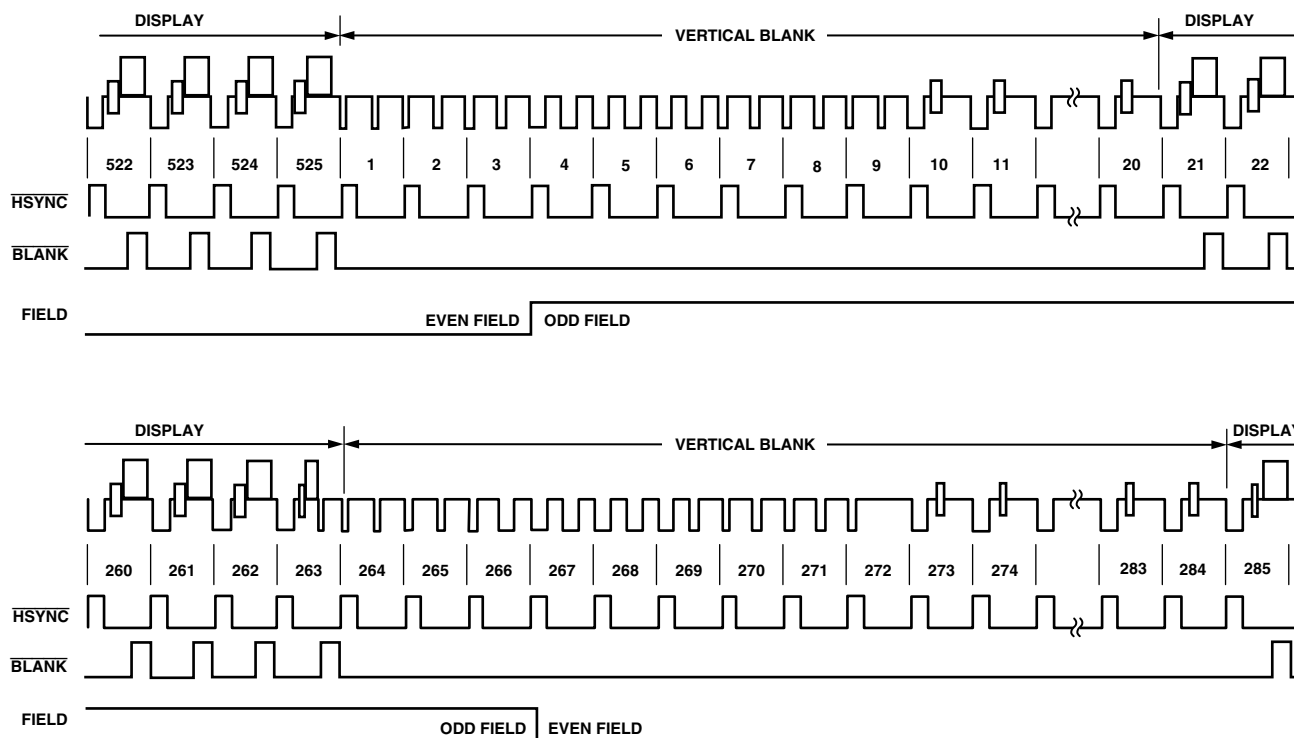
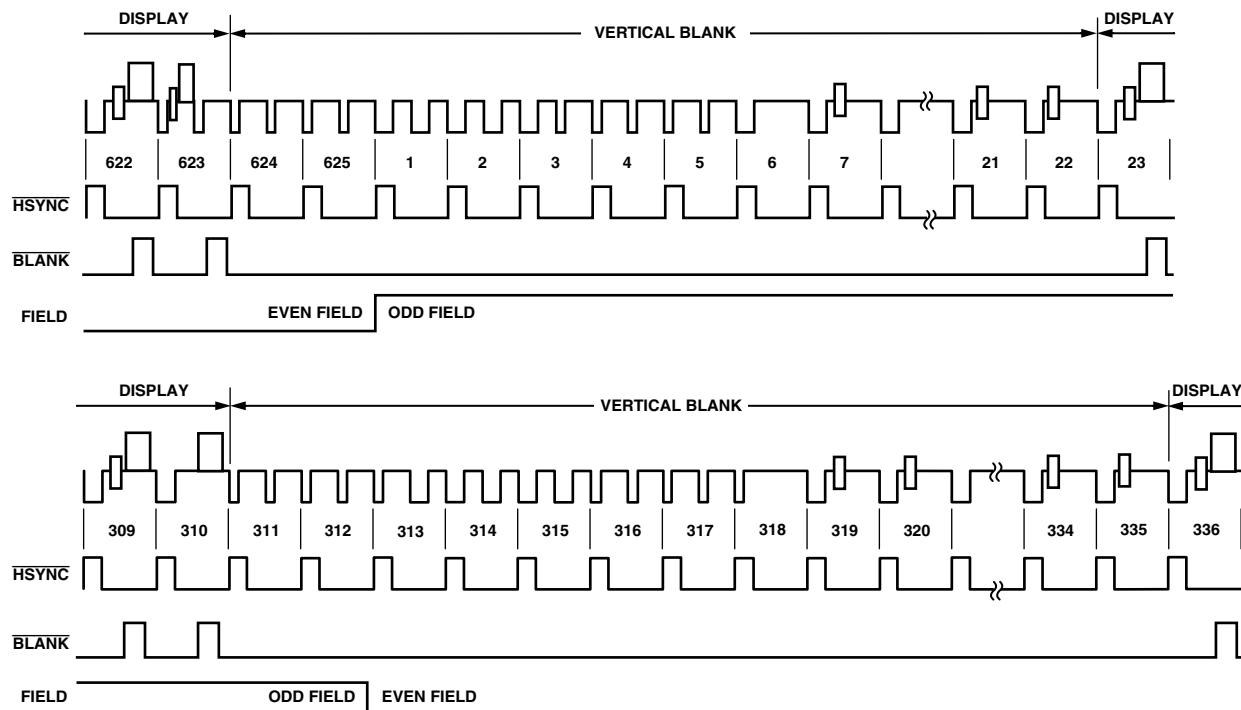

Figure 18. Timing Mode 3 (NTSC)
Figure 19. Timing Mode 3 (PAL)
i.e., vertical retrace. The $\overline{\text{BLANK}}$ signal is optional. When the $\overline{\text{BLANK}}$ input is disabled, the ADV7174/ADV7179 automatically blanks all normally blank lines as per CCIR-624. Mode 3 is illustrated in Figure 18 (NTSC) and Figure 19 (PAL).